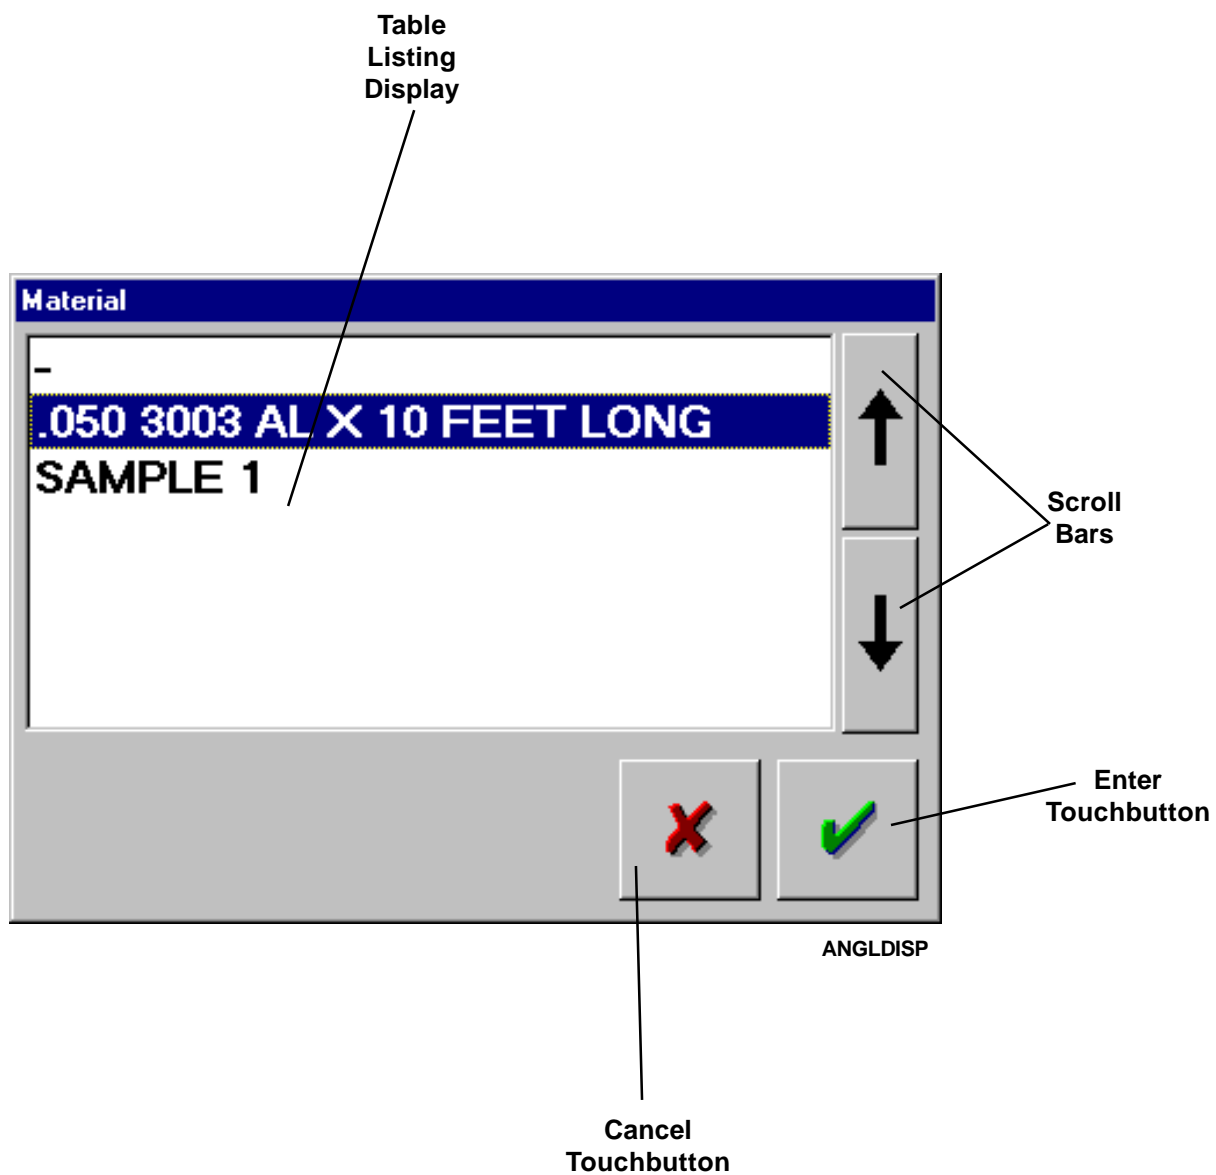

Figure 10-9. Angle Compensation Table Pop-Up Selection Screen
Touch the Angle Compensation Table Touchbutton to use values from an Angle Compensation Table. The Pop-Up Selection Screen shown in Figure 10-9 will appear. This information is optional.
**SELECTING AN ANGLE COMPENSATION TABLE** Existing Angle Compensation Tables will be listed in the Table Listing Display of the Angle Compensation Table Pop-Up Selection Screen shown in Figure 10-9. Based on material, select the table to be used by touching the listing in the display. (If no tables exist, the word "None" will be the only listing shown.)